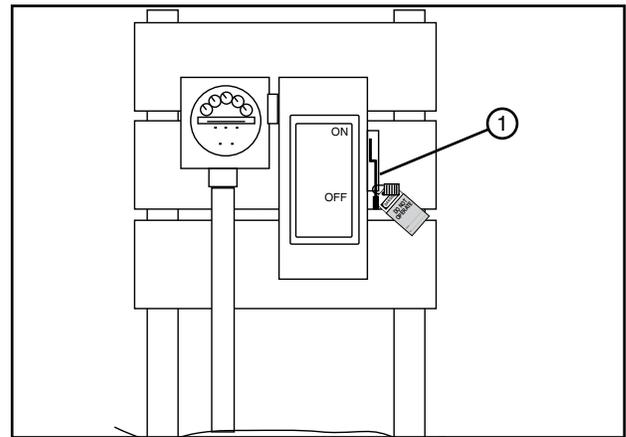

Figure 41-1 1. Public Power Service Disconnect
1. SHUT OFF and LOCK the public power service disconnect to the irrigation machine. See figure 41-1.
FILL OUT the blue (OSHA safety color code) tag and attach to the disconnect after locking. See figure 41-1